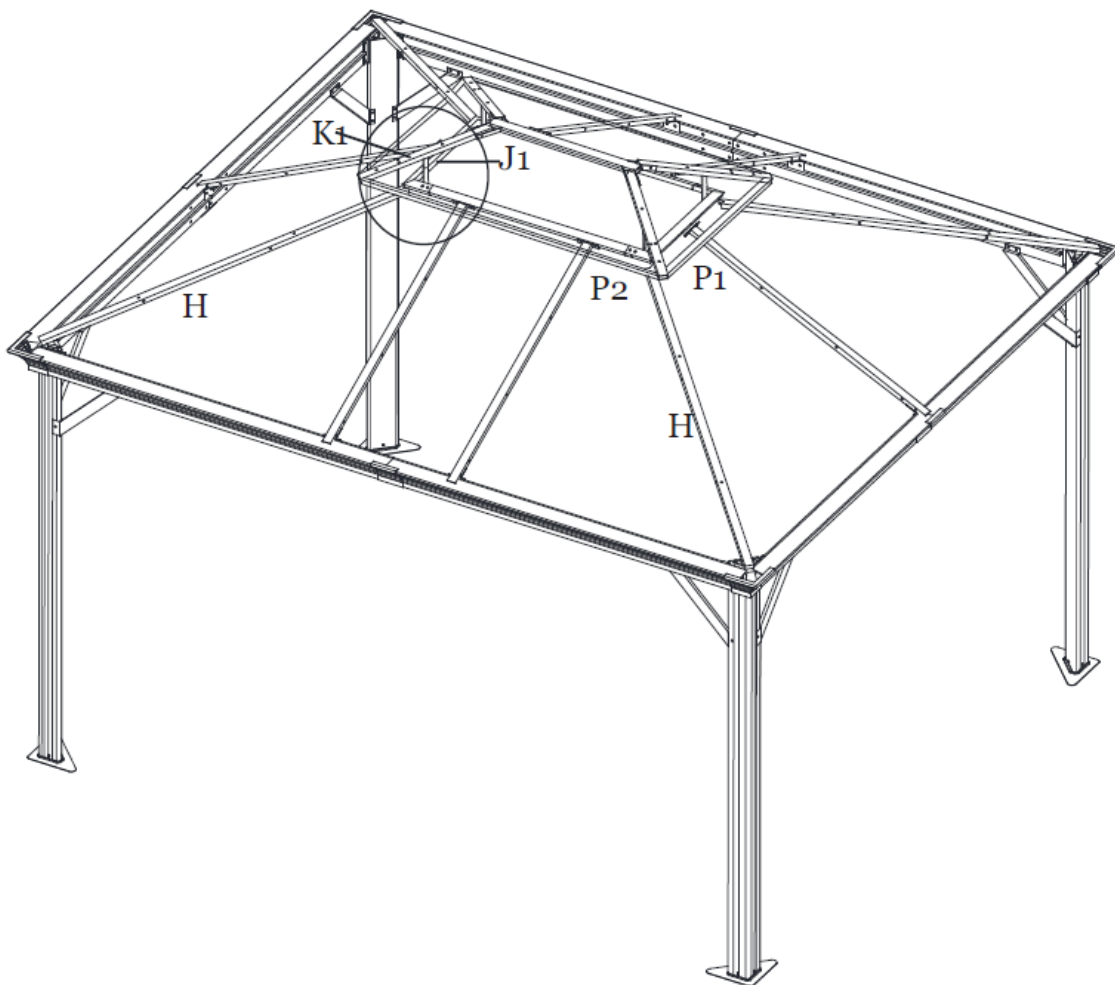

Figure 9-3
Step 9D: Repeat for all corners. **Tighten all Bolts.** See Figure 9-3.